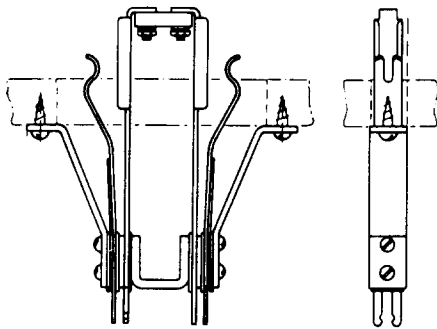

Fig. 1—401A Jack
2.01 **401A:** This multicontact jack (Fig. 1) consists essentially of a metal "U" shaped frame equipped with a spring combination and arranged to mount on the under side of a panel. The guide plates extend through an opening in the panel. The 401A jack is arranged to be used with the 252 or similar type plugs. This jack is to be used in patching cord test sets and also in place of the 288 jack.